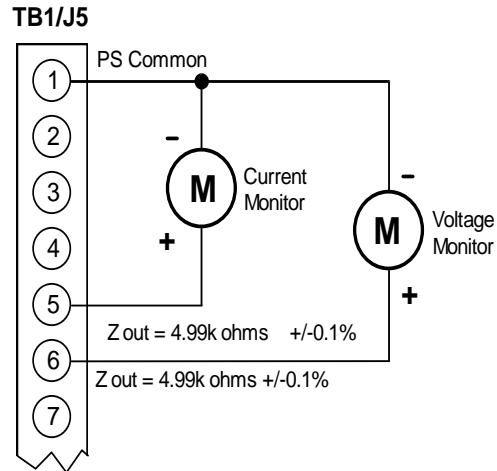

Figure 3.3 -- Remote Monitor Test Point Designations
- **REMOTE MONITOR:** Test points are made available at the terminal block on the rear of the chassis for monitoring the voltage and current output. (Output power monitor is included with the CPC and APT option). The test points are always positive regardless of the output polarity where 0V to 10V equals 0 to 100% of the output $\pm 0.5\%$. Test points have an output impedance of 5K ohms. See Figure 3.3 on page 14 for the test point designation.